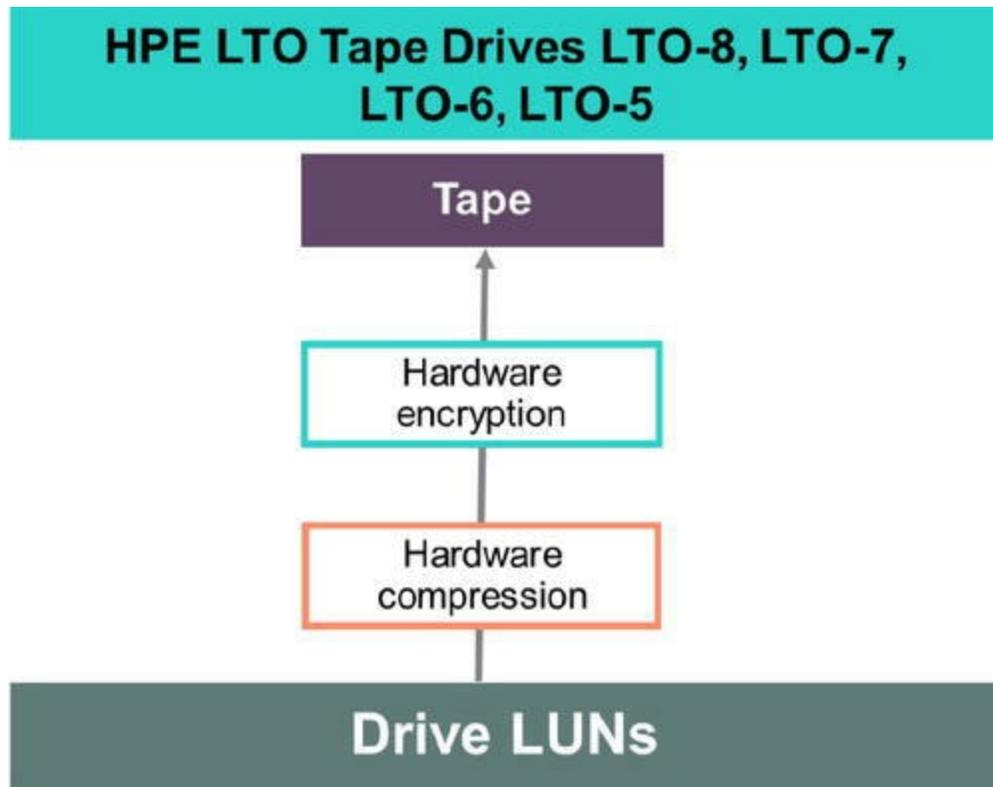

Figure 2-14 Compliant security for data at rest
- Comply with legislation—granted FIPS140-2 Level 1 certification (LTO-5, LTO-6, LTO-7), as indicated in Figure 2-14